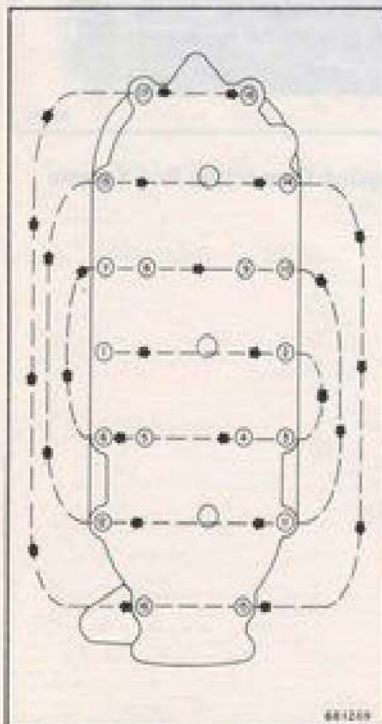

Figure 5-45. Cylinder Head Torque Pattern
- e. Install cylinder head, using a new gasket lightly coated with OMC Gasket Sealing Compound. Do not use sealer if gasket is so marked. Install temperature switch and thermostat if removed. Tighten cylinder head bolts to specified torque, following the sequence shown in Figure 5-45.